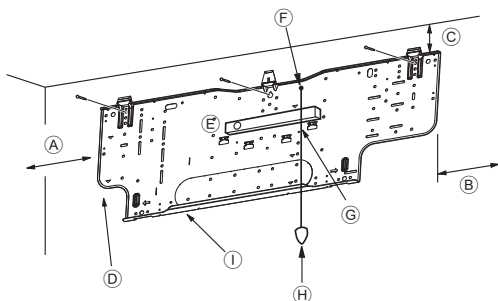
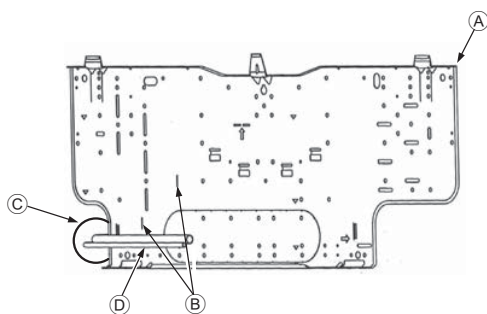

Fig. 3-4
Fig. 3-5
■ PKFY-P-NHMu-E (Fig. 3-4)
- D Fixing screws (4 × 35 mm, 1-3/8 inch) ②
- I Mount board ①
3.3. When embedding pipes into the wall (Fig. 3-5)
- A Mount board ①